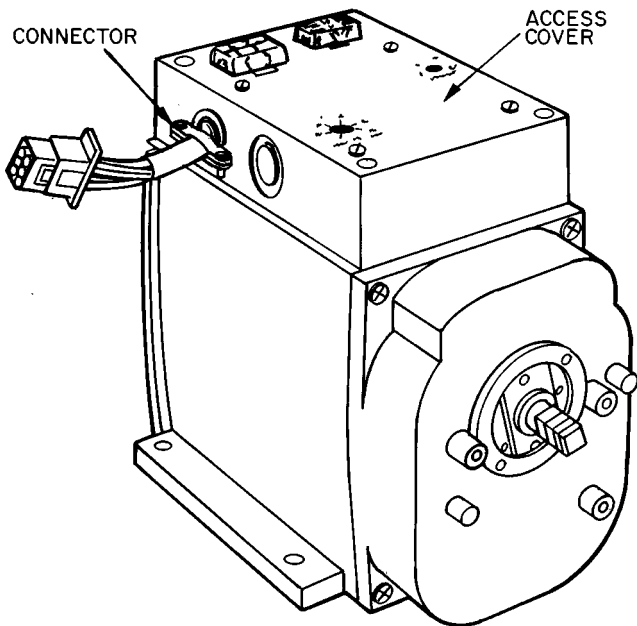

Fig. 6 — Economizer Motor
3. Route blue and violet wires supplied with differential enthalpy control sensor accessory through connector on the side of the economizer motor into the economizer motor wiring compartment. See Fig. 6. Connect the violet wire to + terminal and the blue wire to S_R terminal.
1. Remove access cover from top of economizer motor. See Fig. 6 and 10.
3. Route blue and violet wire supplied with differential enthalpy control accessory through connector on the side of the economizer motor into the economizer motor wiring compartment. See Fig. 6. Connect the violet wire to + terminal and the blue wire to S_R terminal.